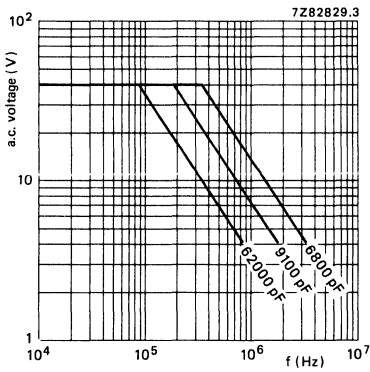

Fig. 3 Maximum a.c. voltage (r.m.s. value) as a function of frequency at $T_{amb} \leq 70^\circ C$, for $U_R = 63 V$.
* At $T_{amb} \leq 70^\circ C$ the maximum permissible sinusoidal voltage can be found in Figs 3, 4 and 5.